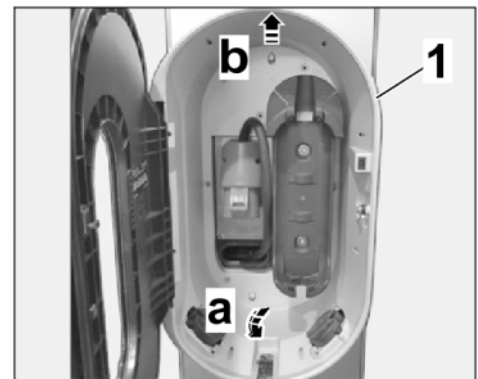

Figure 6
- 1.3.2 Pull the lower end of the charging dock ⇒ *Figure 6-1-* approx. 10 mm off the charging pedestal ⇒ *Figure 6-a-*, lift it up ⇒ *Figure 6-b-* and remove it.